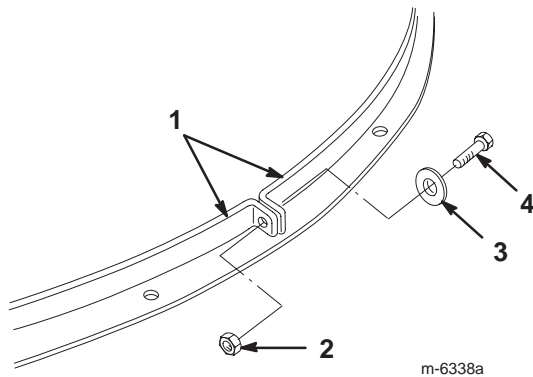

Figure 15
10. Remove the bolt, washer, and nut that secure the 2 strap ends together (Fig. 15).
14. Join the 2 strap ends around the Recycler cover as shown (Fig. 15).
9. Remove the bolt, washer, and nut that secure the 2 strap ends together (Fig. 15).
15. Join the 2 strap ends around the discharge chute as shown (Fig. 15).
16. Align the holes in the strap ends and fasten them together snugly with the bolt, washer, and nut you previously removed (Fig. 15).